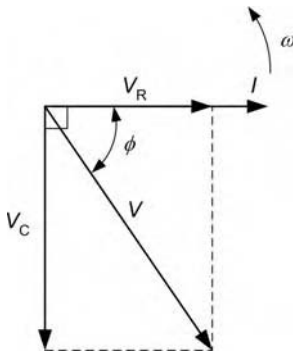

Figure 5.159 Phasor diagram for the series R - C circuit.
We can illustrate this relationship using the phasor diagram shown in Figure 5.159. Note that once again we have used current as the reference phasor in this series circuit.
From Figure 5.159 you should note that the supply voltage (V) is simply the result of adding the two voltage phasors, V_R and V_C . Furthermore, the angle between the supply voltage (V) and supply current (I), ϕ , is the phase angle.